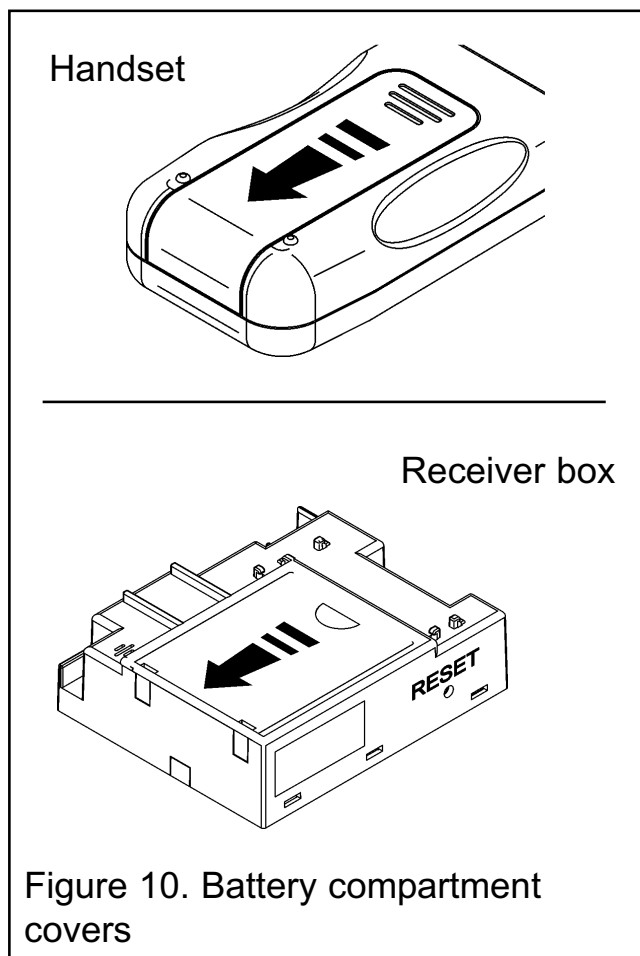

Figure 10. Battery compartment covers
The remote control handset is battery powered. There is a 9 Volt 'PP3' size battery supplied. Remove the rear battery compartment cover from the remote control handset. To do this push the tab towards the bottom of the handset and lift (See figure 10). Fit the battery in to the handset. Replace the cover.
The gas valve and receiver are battery powered. There are four 1.5 Volt 'AA' size batteries supplied. Remove the elastic band that retains the receiver box and locate the batteries in the receiver box. To do this slide the receiver box forward and clear of its support. Slide the battery compartment cover clear (See figure 10) and fit the batteries. It is important that the +ve and -ve symbols on the battery match those of the illustration inside the battery holder. Replace the cover and receiver box. **It is important that the wires from the receiver box do not touch the underside of the burner tray.**
Press and hold the reset button on the receiver (See figure 10) until you hear two (2) acoustic signals. After the second, longer acoustic signal, release the reset button.